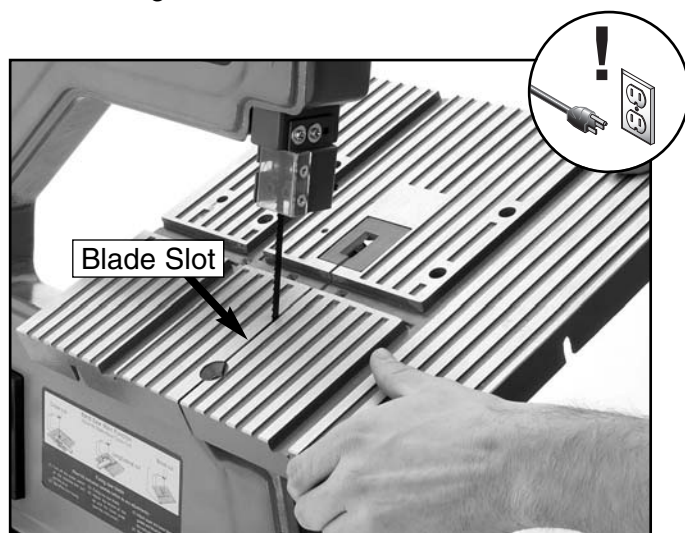

Figure 12. Attaching the table to the bandsaw.
7. Slide the blade slot in the table around the blade (**Figure 12**) and position the table trunnion against the back of the bandsaw.